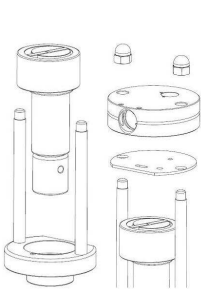

fig. 21
- Lift-off valve head and the steering disc and pull-out the pump. (fig. 21)